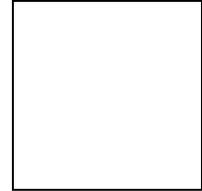

Figure 6
2. Install the outboard tool rest holder onto it's bed by sliding it into the end of the bed as shown in Figure 6. Line up the pressure disc B with the T-slot of the